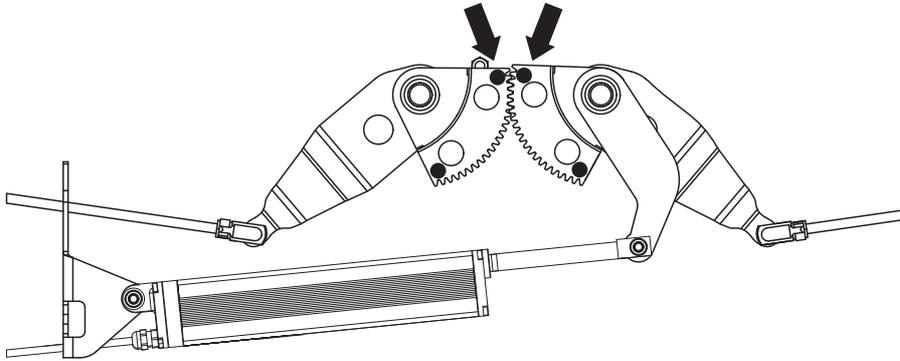
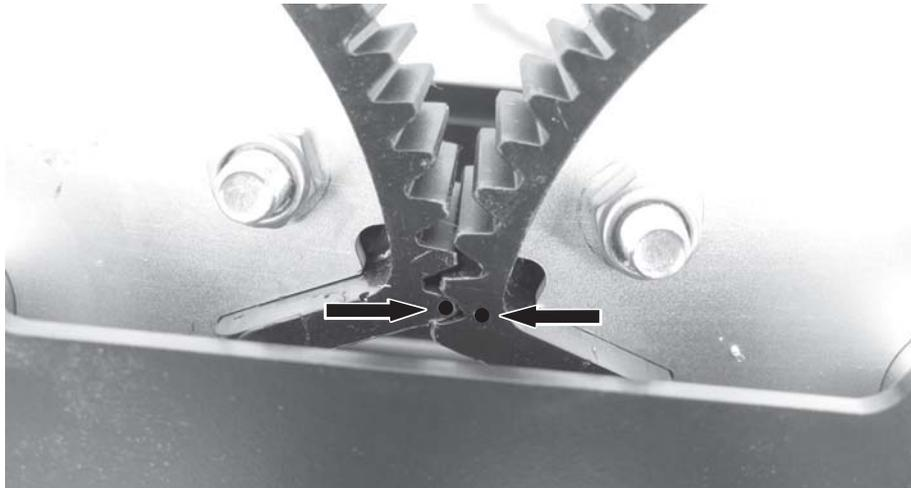

Figure 25: Position of the markings on the toothed segments
Figure 26: Underside of the toothed elements, markings must coincide: Markings must coincide
1. Remove the protection device from the setting unit (5) by undoing the 2 screws.
- ▷ These must coincide (see figure 25 and figure 26).